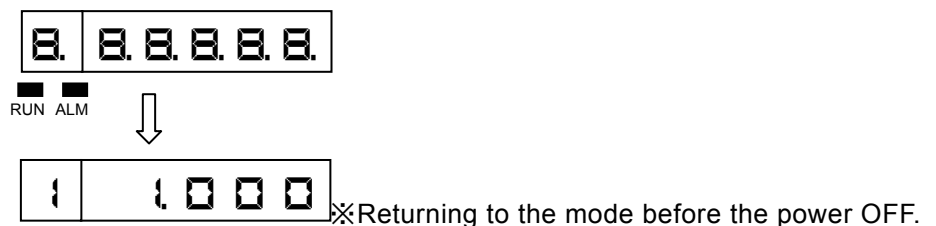

Fig. 6.1 Display Screen at Power-on
- (1) Display screen :The "RUN" lamp keeps the condition of before power-off.
- (2) Printout data :All printing data and analog recording data of before power-off are cleared.
- (3) Alarm and Diagnosis :Alarm indications and outputs of before power-off are not recovered.
- (4) Data display and Channel number are displayed refer to Fig.6.1.
- ① When electric power failure occurs, the initialization is performed after power recovery. And it becomes the above initial state.
- ② The printout data are eliminated in initialization. Printout operation is not continued after power recovery when the power is turned off during printout.
- ③ When the power is turned on, the display displays "0" while reading data in fig.6.1. The numeral of the displayed digit depends on the setting.